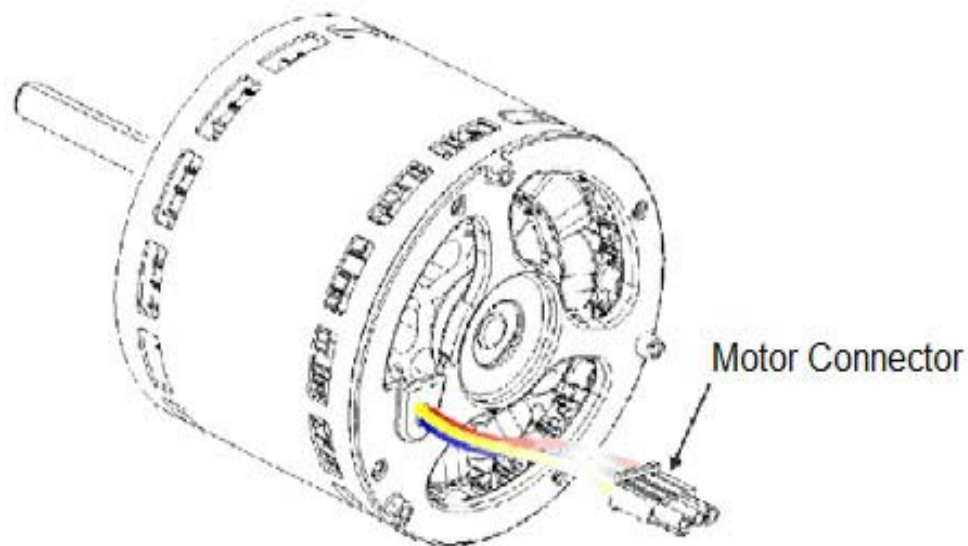

Figure 19
6. Inspect connector on back side of motor for bent, damaged, or recessed wires and terminals [Figure 19].
7. Check phase to phase resistance between each of the three phase terminals in the motor connector [Figure 19].